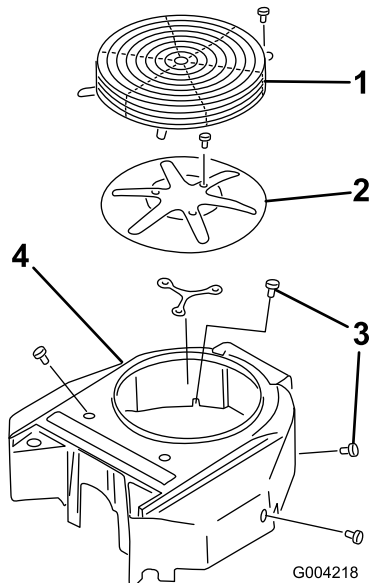

Figure 47
- Remove the air intake screen, recoil starter and fan housing (Figure 47).
- Install air intake screen, recoil starter and fan housing (Figure 47).